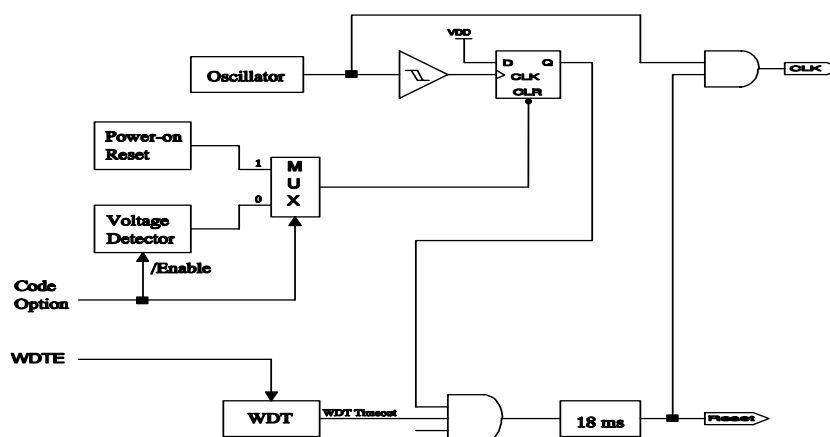

Fig. 8 Block diagram of Reset of controller
- (1) Power on reset, or Voltage detector
- (2) WDT timeout. (if enabled and in GREEN or NORMAL mode)
Note that only Power on reset, or only Voltage detector in Case(1) is enabled in the system by CODE Option bit. If Voltage detector is disabled, Power on reset is selected in Case (1). Refer to Fig. 8.